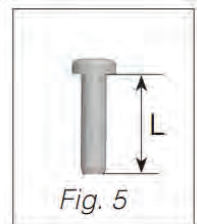

Fig. 5
- 4** Install the new STEPPER MOTOR pressure regulator assembly, as shown in Fig. 3 and Fig. 4. Use the supplied screws (F), M4 x 0.7 threaded, length of thread $L=(16\text{ mm} + 0 - 0.5\text{ mm})$, steel material, resistance class 8.8 (see Fig. 5).